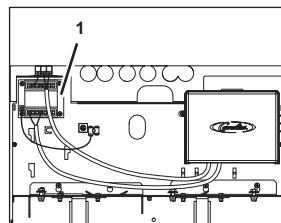

Figure 138
1. Disconnect all electrical cables from the transformer (Figure 138/1).
5. Connect all electrical cables to the transformer (Figure 138/1).